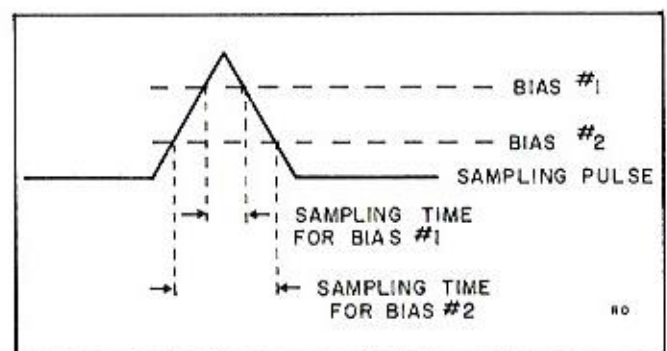

Figure 2-7. Sampling Time vs Sampler Bias
2-34. The overall sampling efficiency of the Model 187B depends upon (1) the time constant of the probe capacitance and the signal source impedance, (2) the length of time the sampler gate is open, and (3) the loop gain of the Model 187B. The loop gain is fixed. To make up for changes in source impedance from one test point to another, the ADJUST control permits some adjustment of sampling time. The control actually adjusts the bias applied to the sampler diodes. Figure 2-7 shows how bias changes vary the sampling time.
2-35. The rise time of the instrument is equal to the sample time (width of the sample) since this is the minimum time the unit can respond to a perfect step. Since step function is averaged over the sample time, decreasing the sample time, figure 2-7, will effectively speed up the response of the instrument and hence increase the passband.